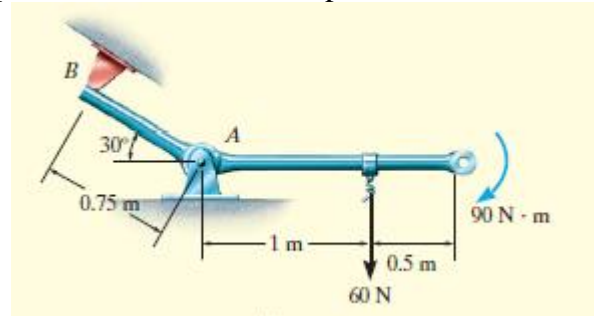

figure 2
2. The member shown in Fig. 2 is pin-connected at A and rests against a smooth support at B . Determine the horizontal and vertical components of reaction at the pin A .